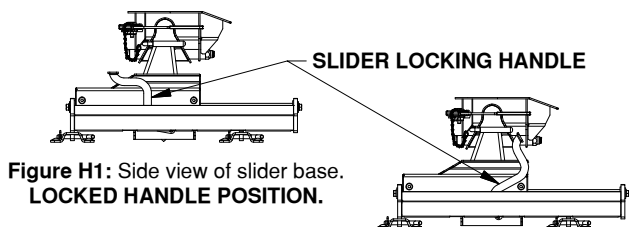

Figure H2: Side view of slider base. UN-LOCKED HANDLE POSITION.
2. Pull the handle toward the rear of the truck to move it to the unlocked position, shown in Figure H2.
6. Pull the handle toward the rear of the truck to move it to the unlocked position, shown in Figure H2.